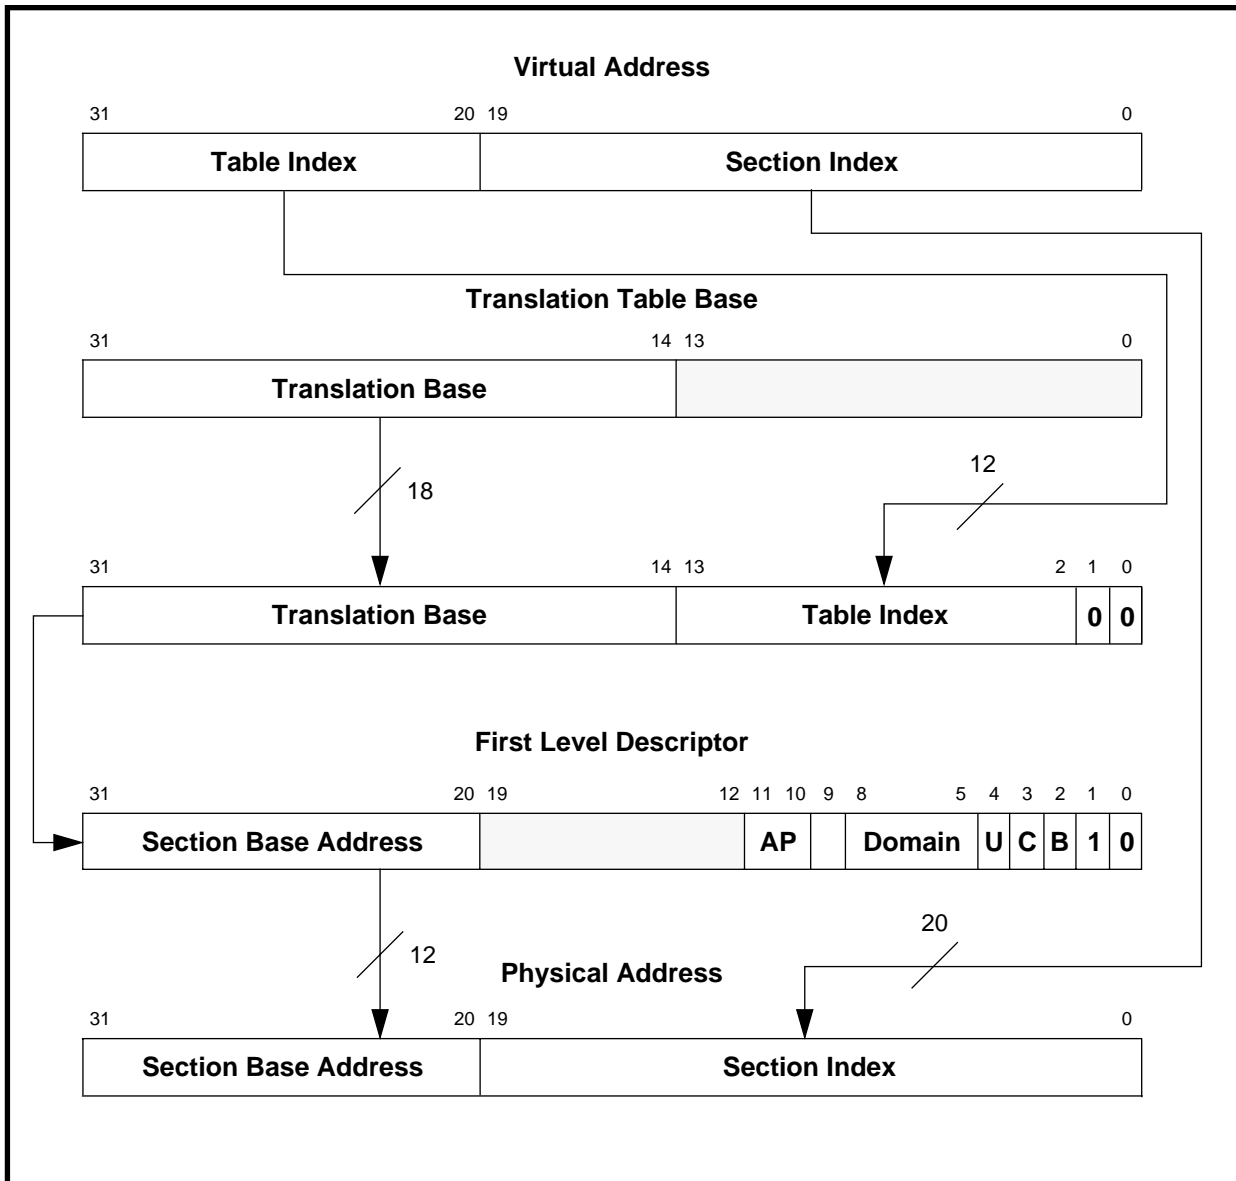

Figure 9-5: Section translation
► *Figure 9-5: Section translation* illustrates the complete Section translation sequence. Note that the access permissions contained in the Level One Descriptor must be checked before the physical address is generated. The sequence for checking access permissions is described below.